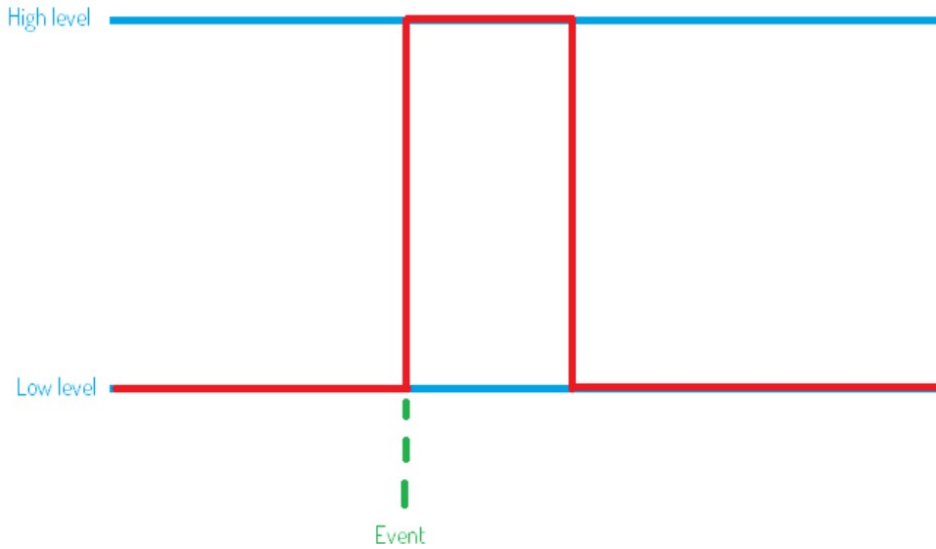

Figure 84. Trigger out setup for pulse high.
- Pulse High (PH) - Each event is signalled by a signal transition from low to high, then shortly high to low (Figure 84)